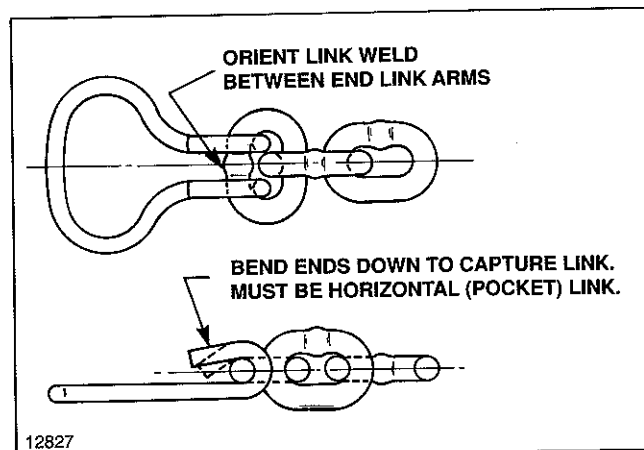

Figure 6-7. Retaining Ring
- If retaining ring requires replacement, replace per Figure 6-7.